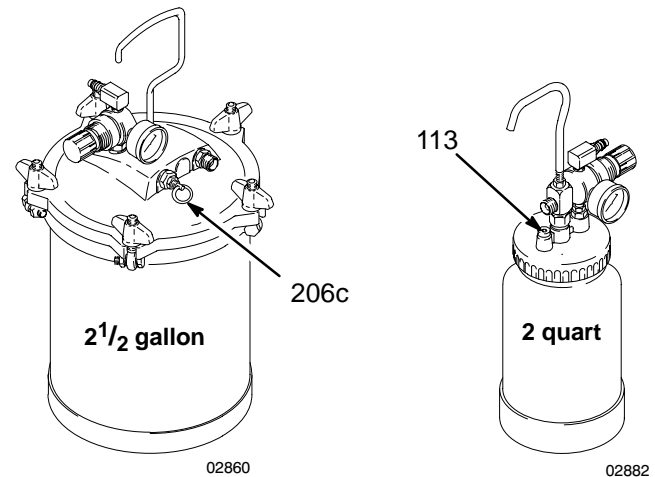

Fig. 4
- a. Turn off air supply to pressure pot. See Fig. 4.